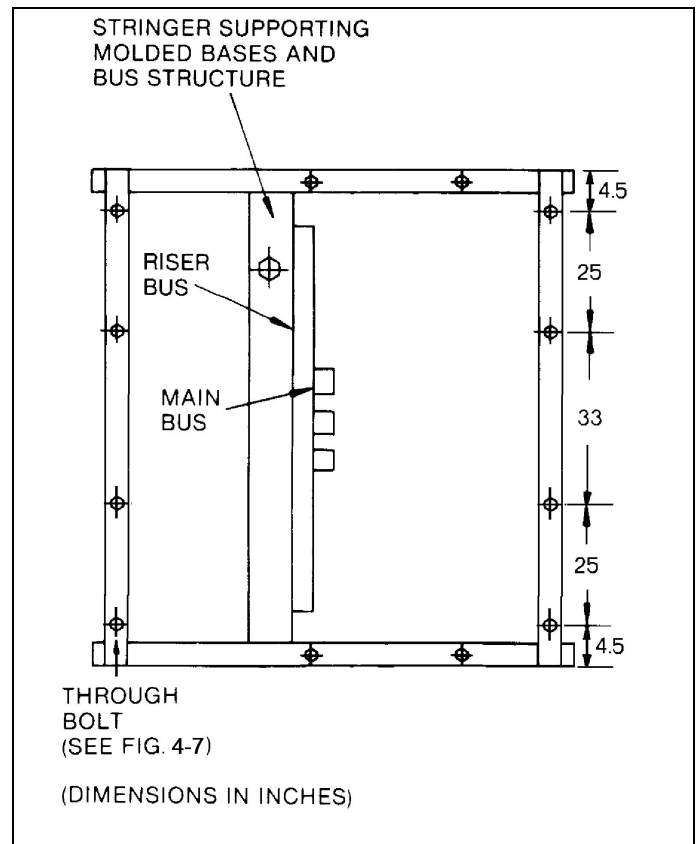

Fig. 4-6 Location of through-bolts
3. FASTEN SECTIONS TOGETHER-After placement of the equipment and installing the anchor bolts loosely, the various shipping sections must be rigidly fastened together. Through-bolts fasten each section of the switchgear equipment to the adjacent section. Fig. 4-6 shows the location of the through-bolts.